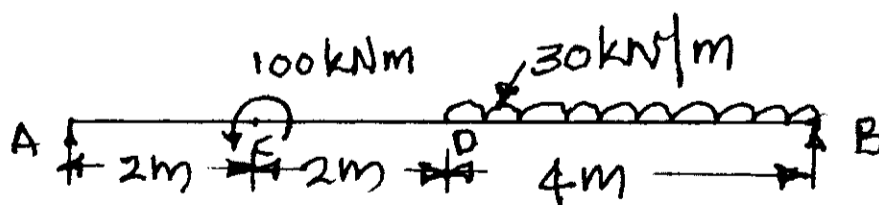

Fig. Q5(b)
- b. Draw SFD and BMD for the beam shown in Fig. Q5(b). Also locate the point of contra-flexure. (14 Marks)